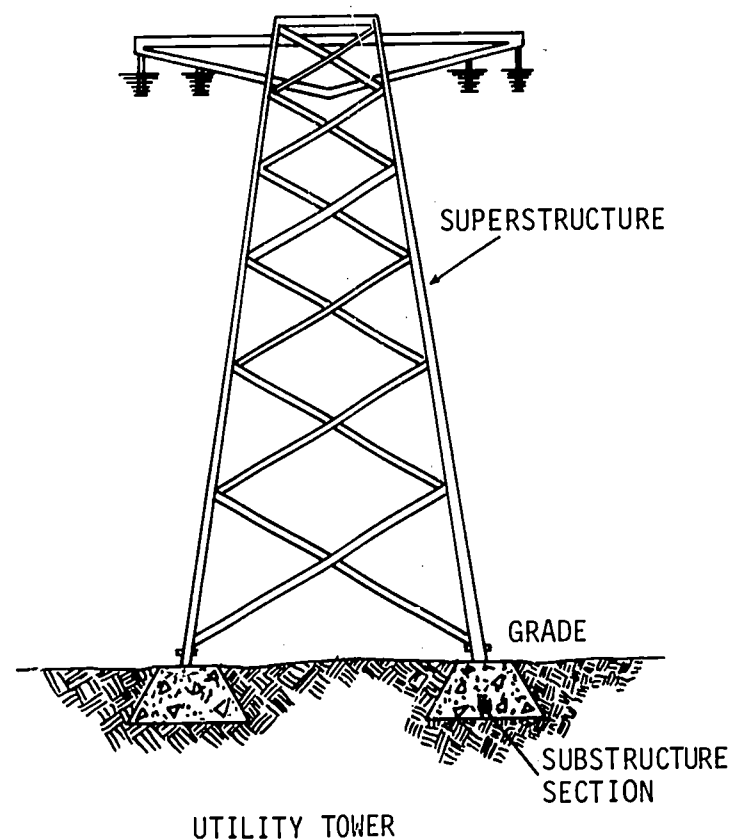

Fig. 36-1. Example Structure
- Include and identify in your sketch the substructures and superstructures. Draw a cutaway view (section) of the substructure. See Fig. 36-1.